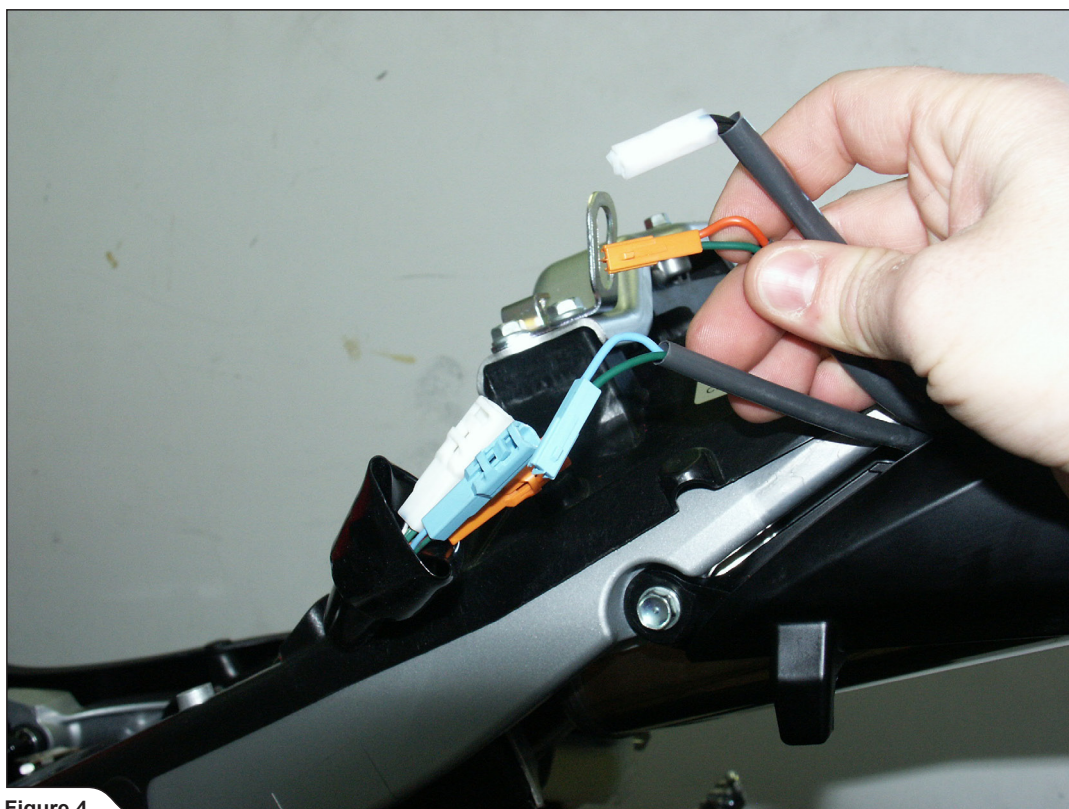

Figure 4
4. Unscrew and remove the licence plate holder with rear light and turn signal lamps. Disconnect the electrical leads first (**Figure 4, 5**).